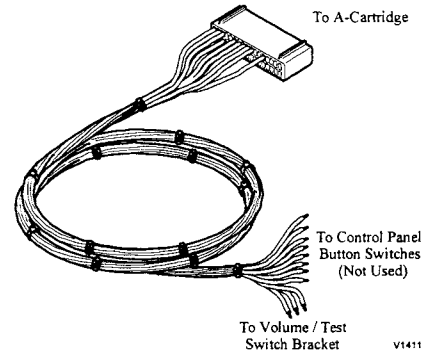

**Figure 4: Joystick Installation**
18. Install the joysticks on the control panel as shown in figure 4.